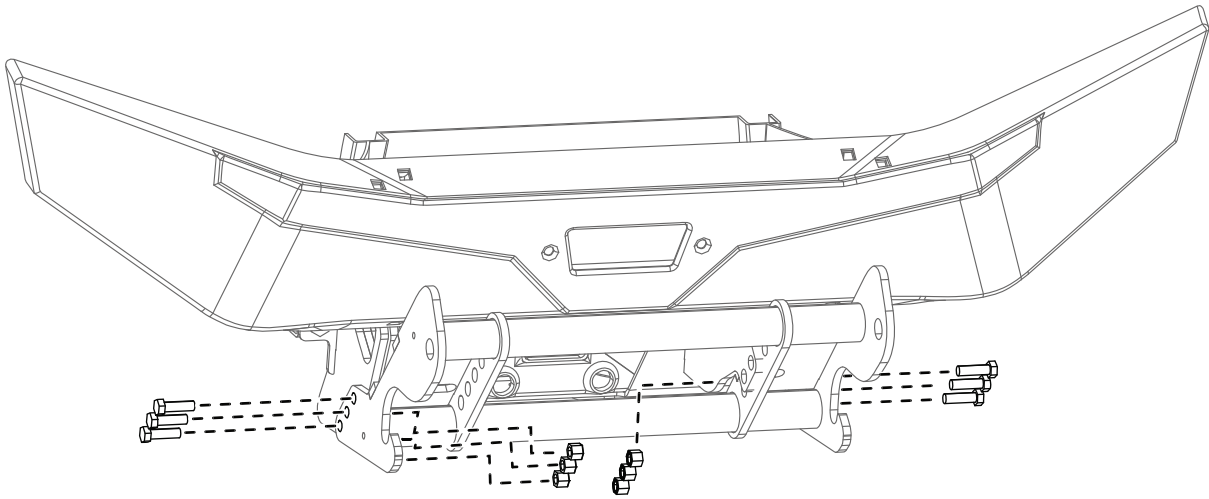

Figure 4
6. Loosely secure the outside of the pushbeam assembly to the skid plate using 6 bolts (3/8 inch) and locknuts (Figure 4).